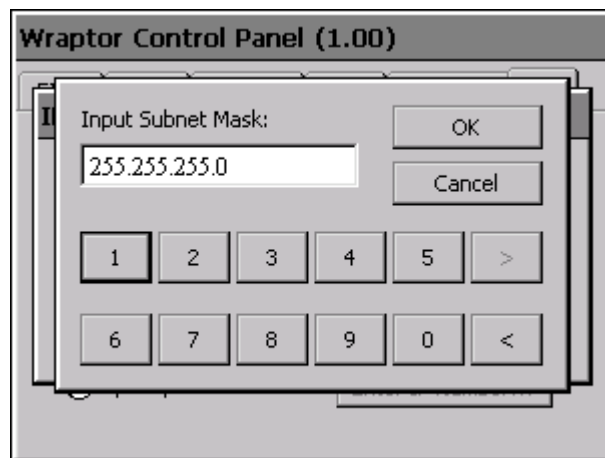

Figure 25. IP Number Keypad.
- Press the **Enter** button to display the keypad (*Figure 25*).